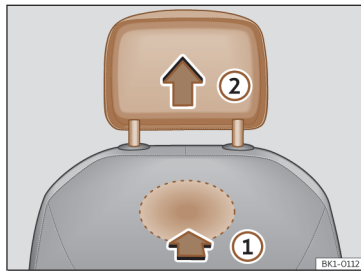

Fig. 100 Front headrest: removal.
- To unlock it, look for the rabbit on the bottom of the backrest and press in the direction of the arrow»» Fig. 100 ①.
- Remove the head restraint in the direction of the arrow ②.